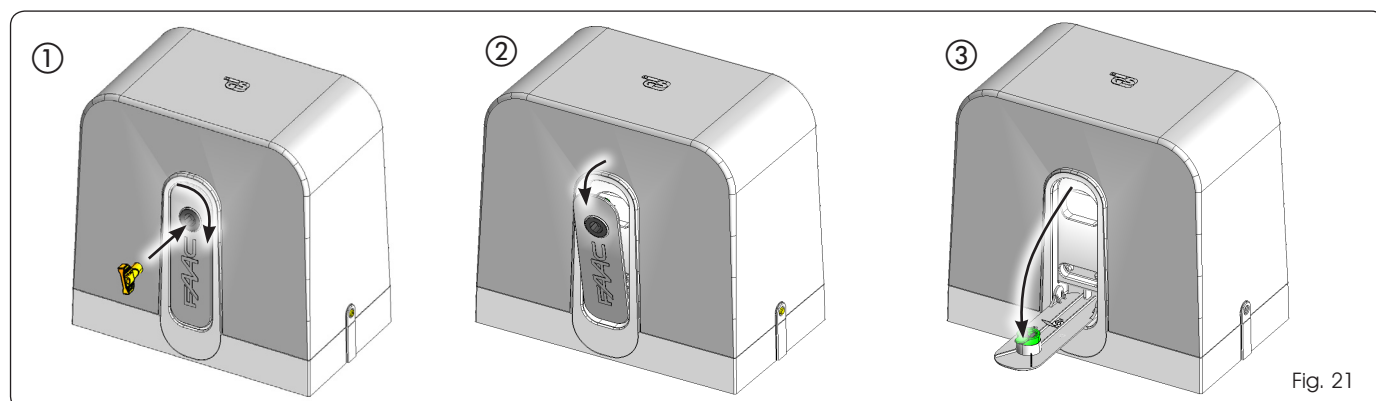

Fig. 21
1. Turn the release clockwise as shown in Fig. 21 re. ①. The release lever will move slightly away from the operator body (Fig. 21 re. ②)
2. Fully lower the release lever to the mechanical stop Fig. 21 re. ③.